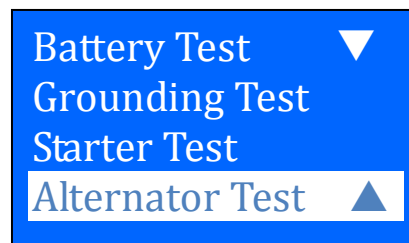

Figure 51
- Pressing  key to scroll down to the 'Alternator Test' (Fig.51)